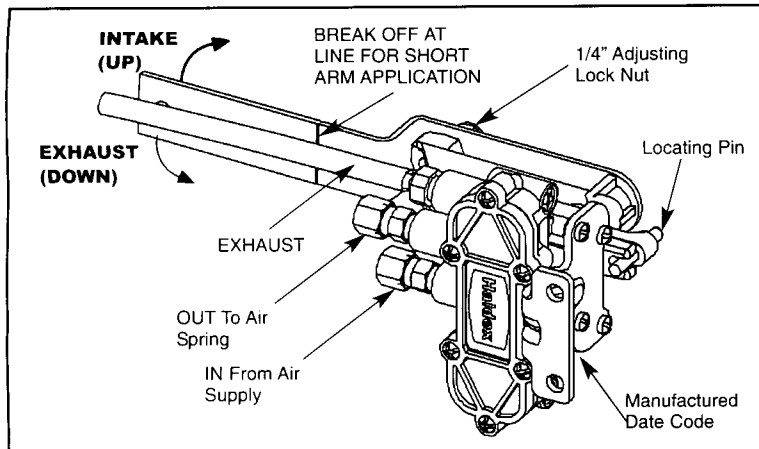

Figure 2. Features of Type CR HCV
- a) Connect air line from air springs to the center port. (Figure 2)
- b) Connect air line from the air supply to the bottom port. (Figure 2)
- c) The top port is ALWAYS the exhaust port. Install the supplied exhaust fitting to top port and slip the exhaust hose over the exhaust fitting. (Figure 2)